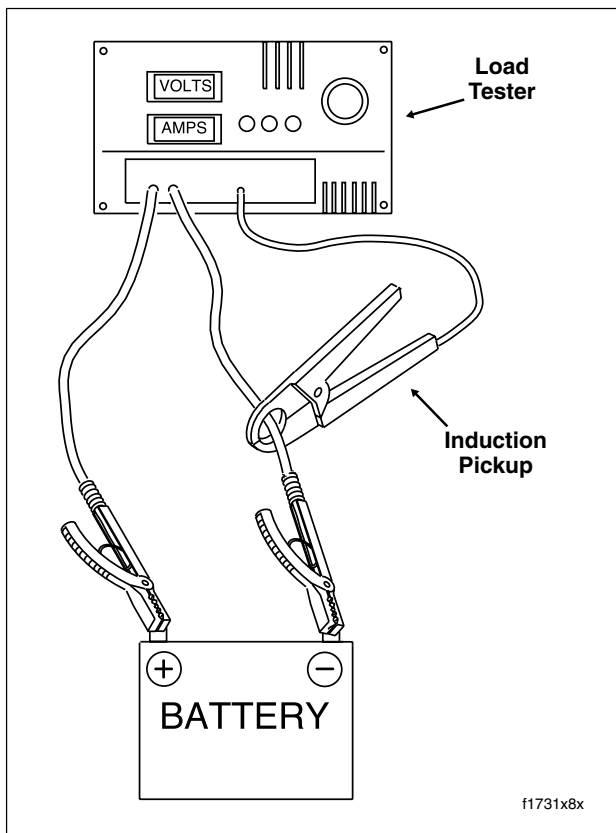

Figure 8-22. Load Test Battery
3. Connect tester leads to battery posts and place induction pickup over negative (black) cable. See Figure 8-22.